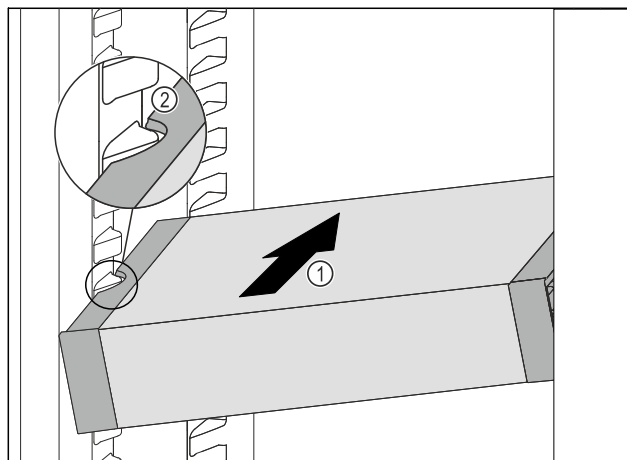

Fig. 31
- Insert the VarioSafe into the refrigerator compartment at an angle Fig. 31 (1) until the recesses in the side Fig. 31 (2) of the VarioSafe are at the level of the support rib in the refrigerator compartment.